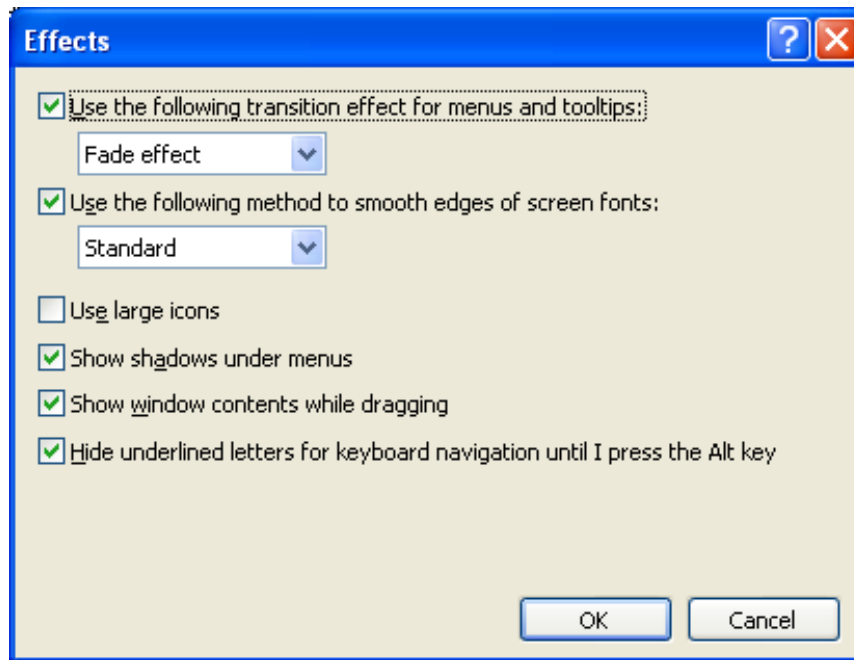

Figure D-1: Effects Window
5. Click the **Effects** button to open the *Effects* window (Figure D-1).